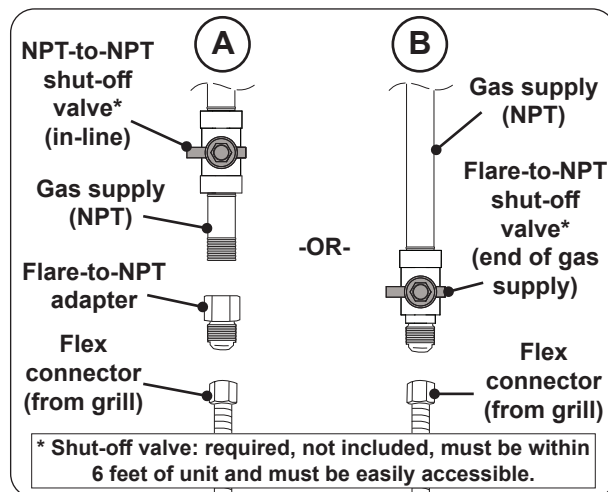

Fig. 23-1 Connecting to a gas line
- Install the supplied flare-to-NPT adapter to the gas supply (NPT) using a pipe joint compound resistant to all gasses (see Fig. 23-1, A). Tighten securely.
- Connect the flex connector to the adapter (see Fig. 23-1, A). Tighten securely.
- Connect the flex connector to the shut-off valve (flare) (see Fig. 23-1, B). Tighten securely.